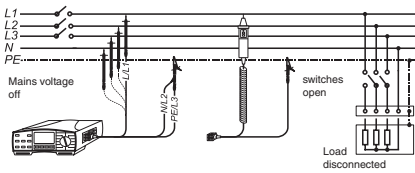

Figure 6: Connection of Test Leads
- ▶ Connect the test leads to UUT in accordance with Figure 6. If desired, this connection information can directly be retrieved on the measurement instrument using the key 'HELP'. Repeated pressing of the key 'HELP' indicates the various options for connection.